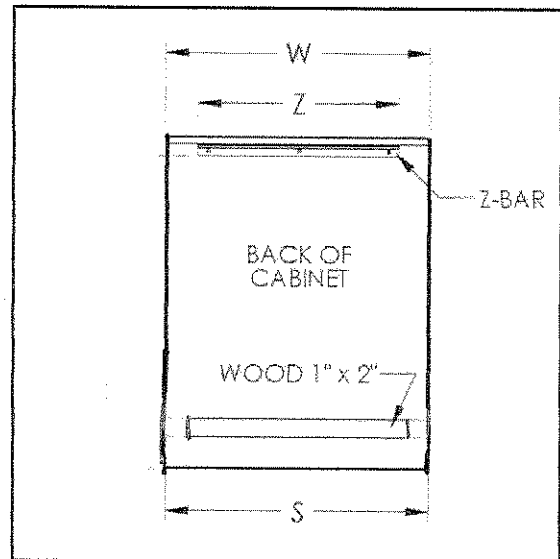

Figure 5
5. Mark location of Z-Bars (see Figure 5 and Table 1). Drill holes in wall and fasten Z-Bars with appropriate fasteners, not included, for wall type.